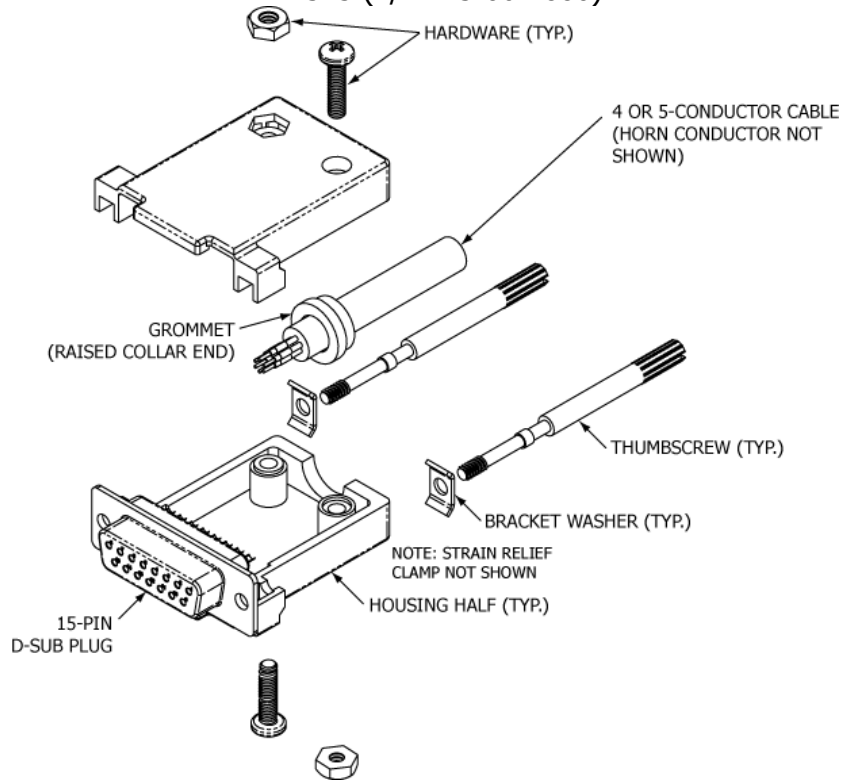

Figure 20 Harness Plug Assembly
- 1) See Figure 20 Harness Plug Assembly.